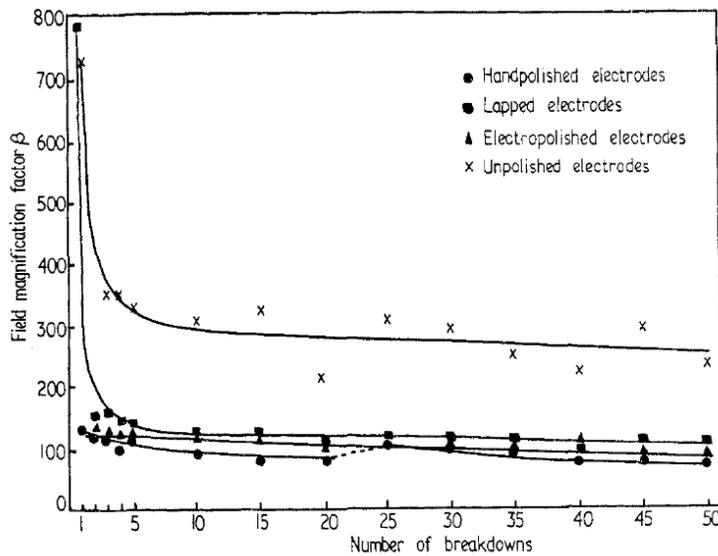
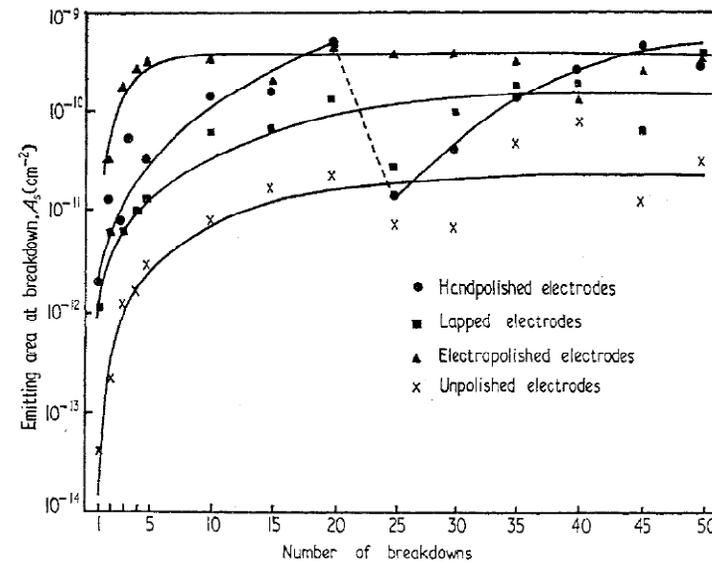

Figure 5. Variation of field magnification factor with number of breakdowns for different sets of electrodes.
Figure 8. Variation of emitting area at breakdown with number of breakdowns for different sets of electrodes.
- Figure 5 and figure 8 extracted from: